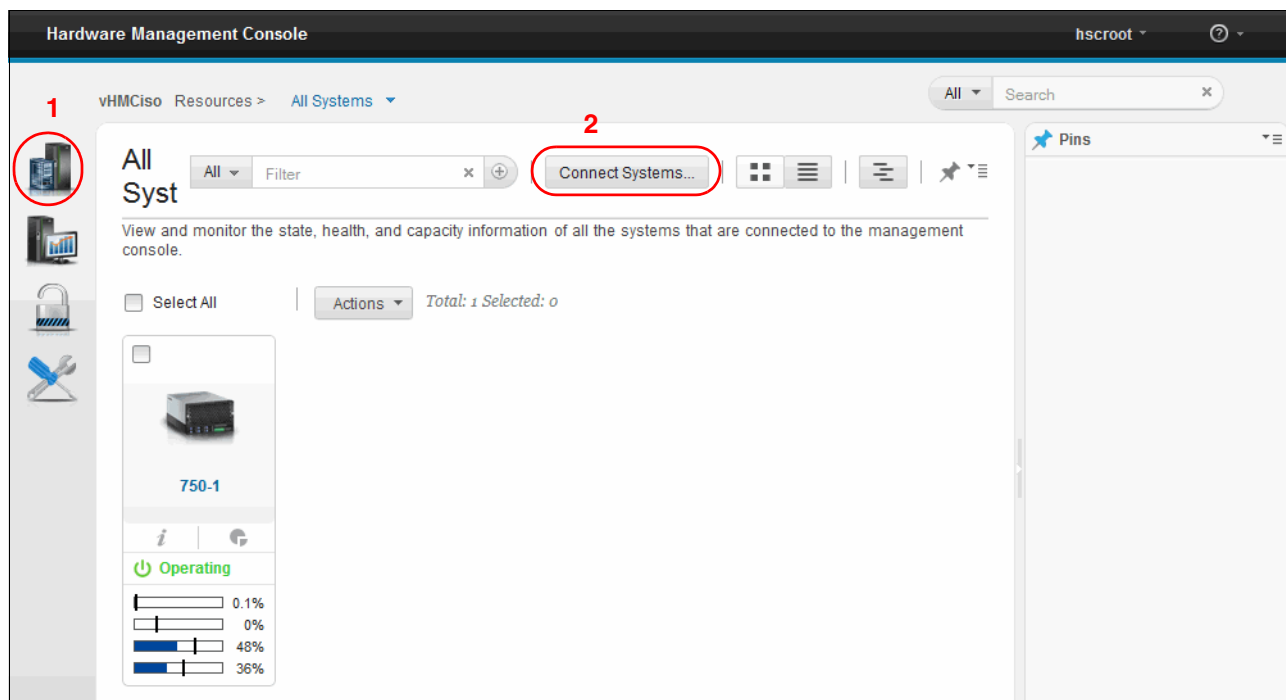

Figure 5-55 Selecting Connect Systems
- From the Resources/All Systems view (Figure 5-55), select **Resources** → **Servers**, and then click **Connect Systems**.